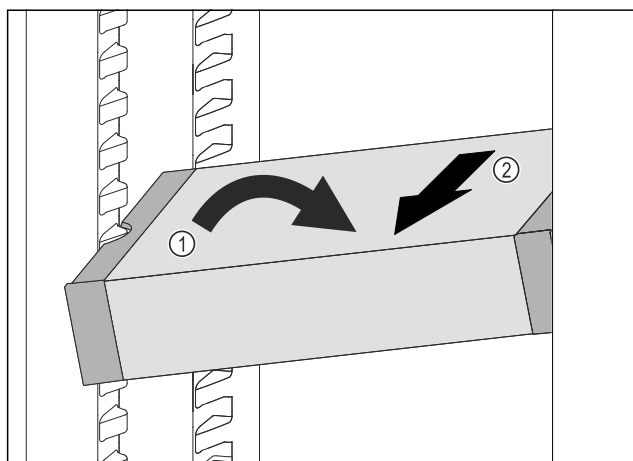

Fig. 112
- Set VarioSafe in refrigerator compartment at an angle. Fig. 112 (1)
- Take VarioSafe out to the front. Fig. 112 (2)